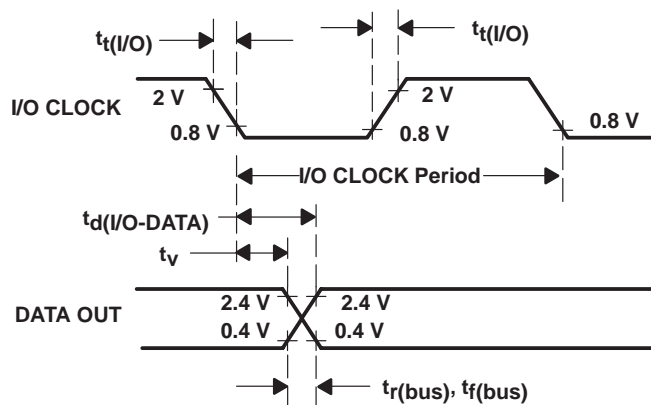

Figure 7. I/O CLOCK and DATA OUT Voltage Waveforms
| Transition time, I/O CLOCK, $t_t(I/O)$ (see Note 4 and Figure 7) | | 1 | | | μs |
- I/O CLOCK period = 1/(I/O CLOCK frequency) (see Figure 7).